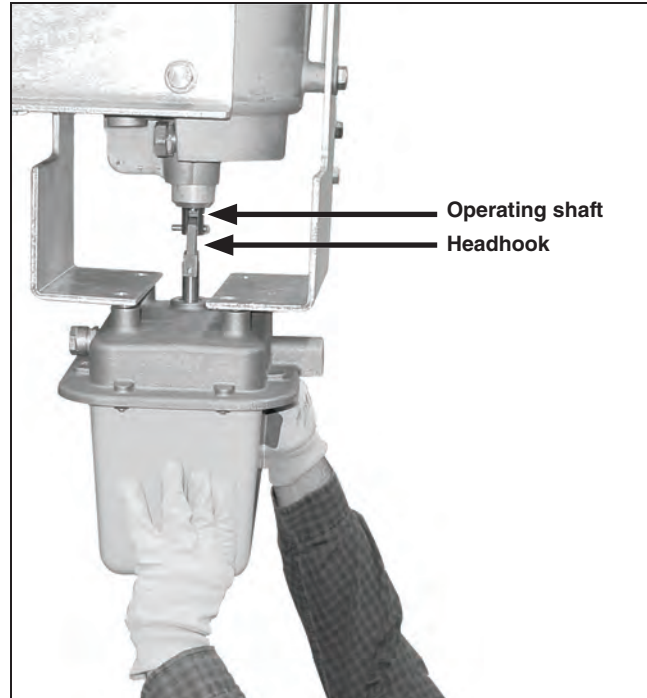
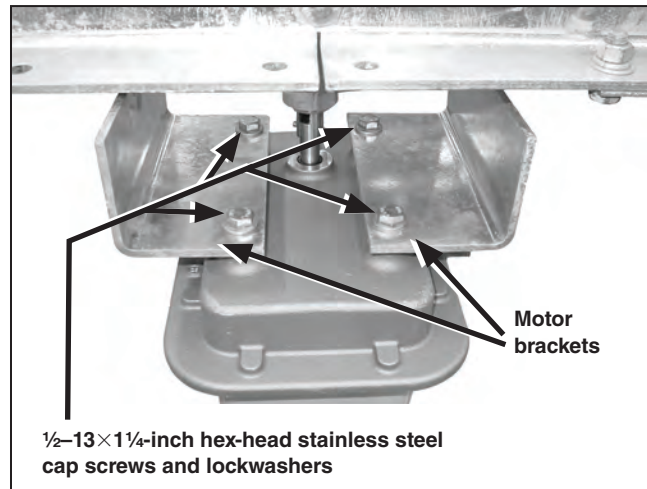

Figure 34. Attach the motor to the operating shaft.
Figure 35. Secure the motor to the motor brackets.
**STEP 3.** Engage the headhook of the charging motor with the operating shaft. See Figure 34. Using the four  $\frac{1}{2}$ -13 $\times$ 1  $\frac{1}{4}$ -inch hex-head stainless steel cap screws and flat washers furnished, fasten the motor to the brackets. Tighten the screws to between 50 and 60 ft.-lbs. See Figure 35.